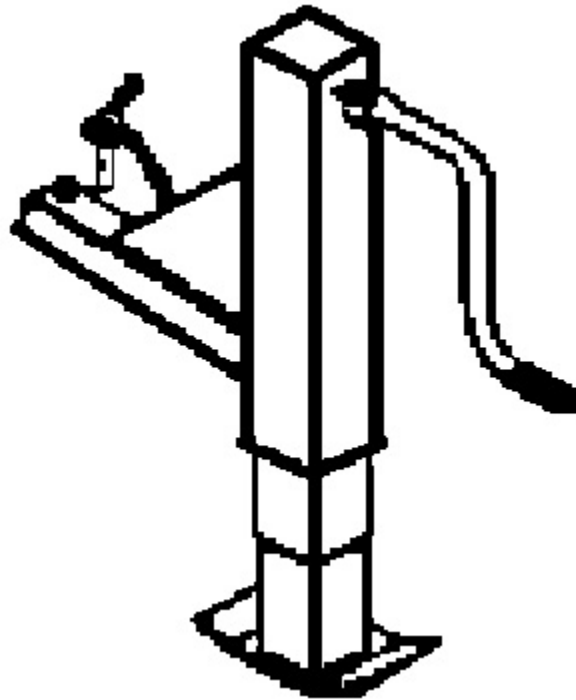

Figure 3-41. Brush-head jack.
3. Install the brush head jack (fig. 3-41). Adjust the swing frame by raising the jack until its $\frac{1}{4}$ inch above level.